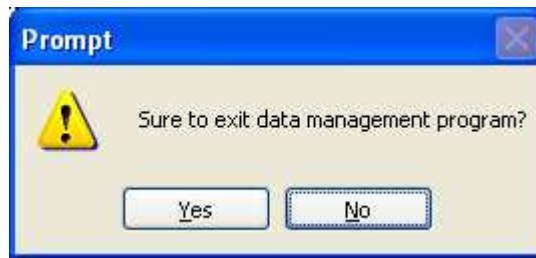

Fig. 5-1-9
As Fig. 5-1-9, click on “×” or “×” on the top right corner of the main interface of the Data Base, and then click on (Y) and exit the data base window; back to the main program interface of ELan-25 infrared carbon and hydrogen analyzer; click on (N), it is to waive the exit.